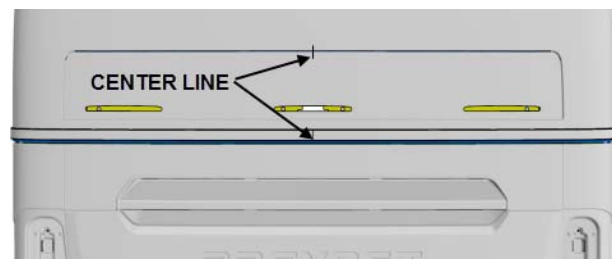

FIGURE 42
3. To ease installation of the drip edges, draw a reference lines on the vehicle body indicating the center of the rear end so that the drip edges will be installed perfectly centered (FIGURE 42). You may use the center high mounted stop light and the SS molding as reference to find the center of the rear end.